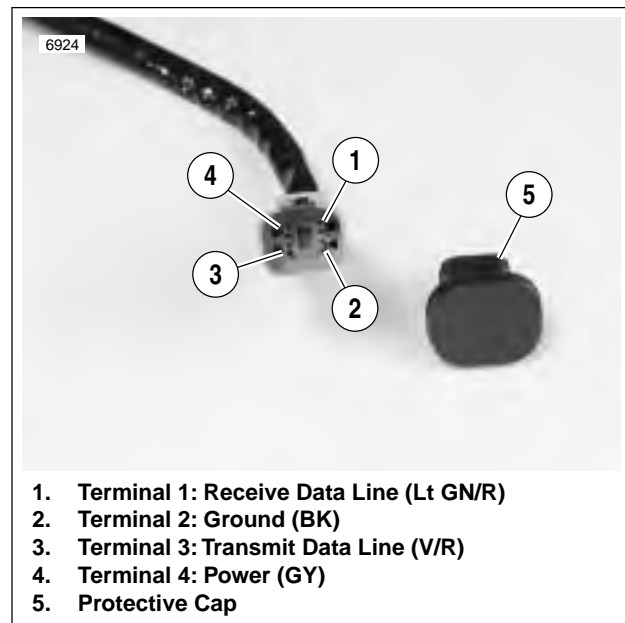

Figure 4-118. Installing Diagnostic Test Wire
- b. See Figure 4-118. Install diagnostic test wire across Terminal 1 and Terminal 2 on the data link connector [91A].